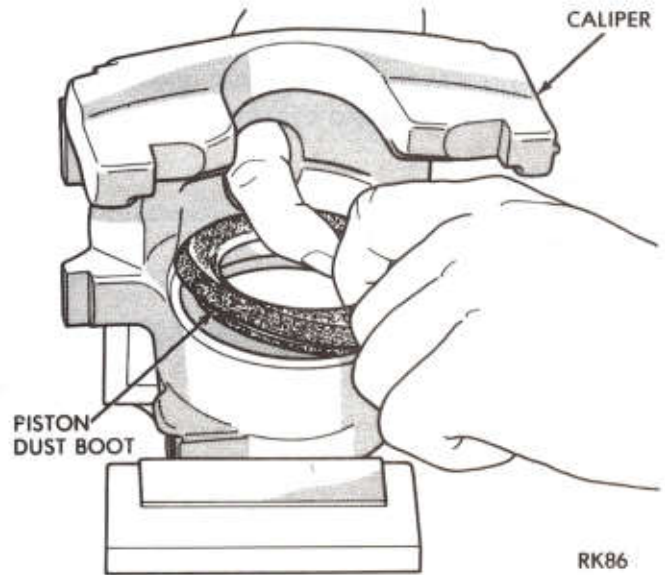

Fig. 13—Installing Piston Dust Boot (Typical)
(3) Coat new piston boot with brake fluid. Install in caliper by working into outer groove, using fingers only. (Boot will seem larger than diameter of groove, but will snap into place when properly positioned in groove (Fig. 13).
(4) Plug hydraulic fluid inlet to piston and bleeder screw hole, then coat piston with brake fluid. With fingers spreading boot, work piston into boot and press down on piston. (The entrapped air below piston